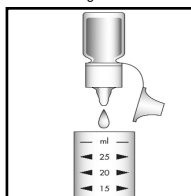

Figure 2
2. Add 2 drops of A-1900 Activator Solution to the sample (fig. 2). Stir briefly to mix the contents of the sample cup.